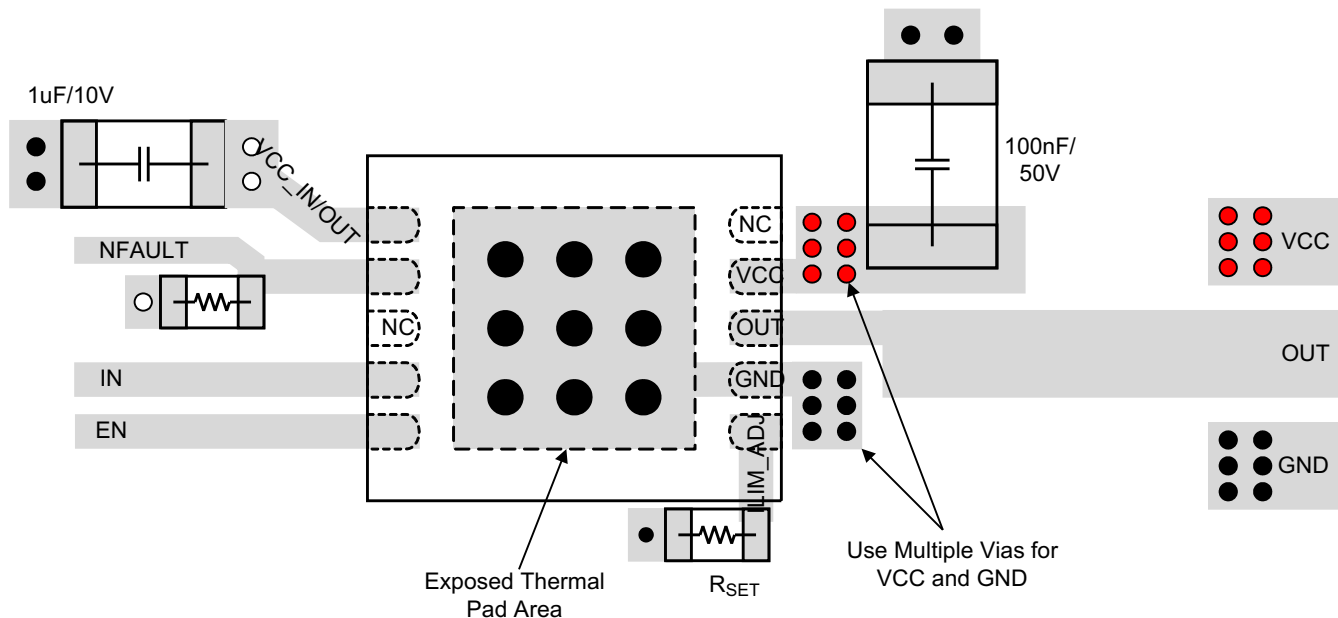

图 11-1. Layout Example
- The optimum placement of the capacitor is closest to the VCC and GND terminals to reduce supply drops during large supply current loads. See Figure 11-1 for a PCB layout example.